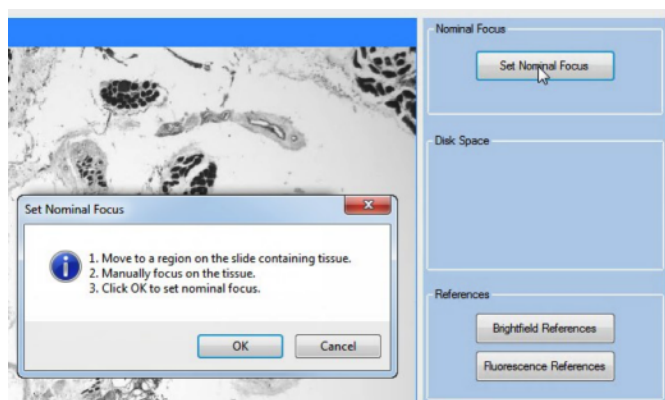

Figure 13. Set Nominal Focus Instructions
5. Click the **Set Nominal Focus** button. The microscope light turns on, the live stream displays in the System Dashboard window, and the Set Nominal Focus window displays as shown in Figure 13.